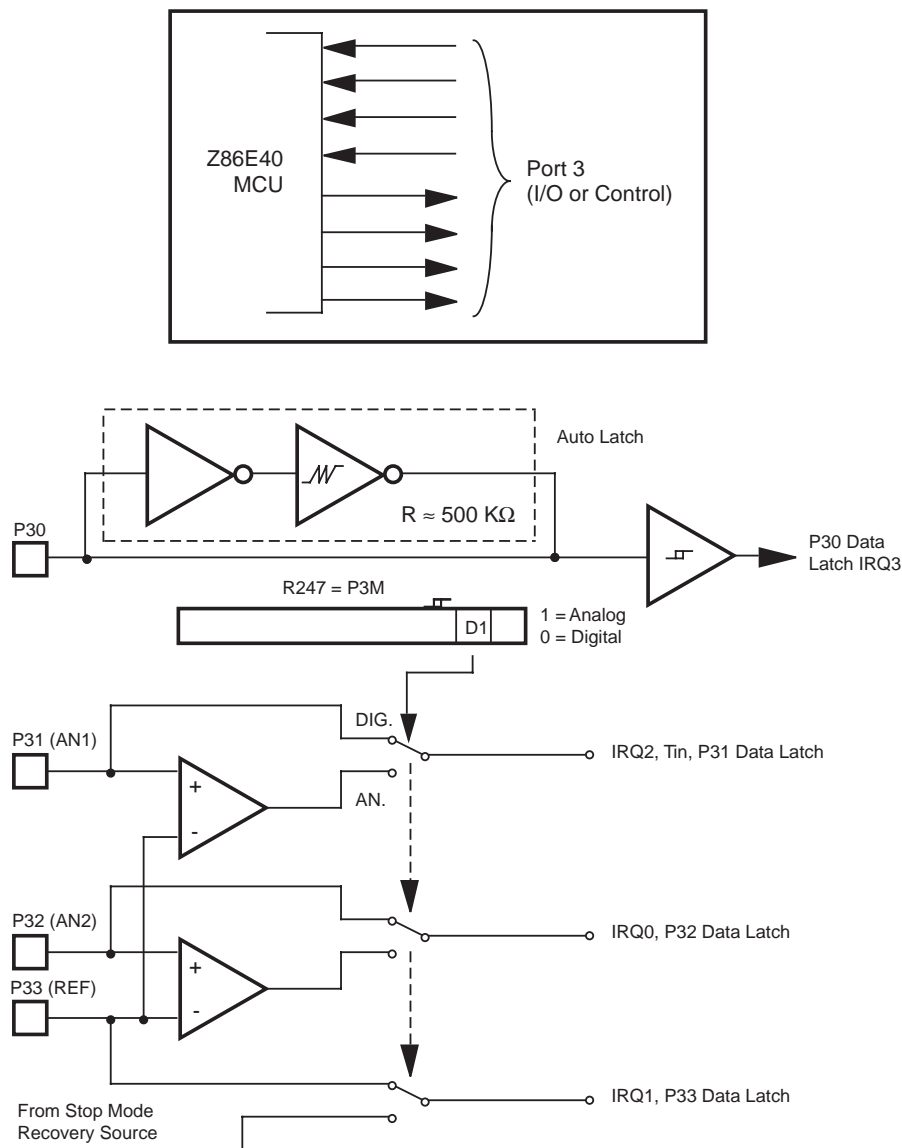

Figure 21. Port 3 Configuration
**Port 3 (P37–P30).** Port 3 is an 8-bit, CMOS-compatible port with four fixed inputs (P33–P30) and four fixed outputs (P37–P34). These eight lines can be configured by software for interrupt and handshake control functions. Port 3, Pin 0 is Schmitt-triggered. P31, P32, and P33 are standard CMOS inputs with single trip point (no Auto Latches) and P34, P35, P36, and P37 are push-pull output lines. Low EMI output buffers can be globally programmed by the software. Two on-board comparators can process analog signals on P31 and P32 with reference to the voltage on P33. The analog function is enabled by setting the D1 of Port 3 Mode Register (P3M). The comparator output can be outputted from P34 and P37, respectively, by setting PCON register Bit D0 to 1 state. For the interrupt function, P30 and P33 are falling edge triggered interrupt inputs. P31 and P32 can be programmed as falling, rising or both edges triggered interrupt inputs (Figure 21). Access to Counter/Timer 1 is made through P31 ( $T_{IN}$ ) and P36 ( $T_{OUT}$ ). Handshake lines for Port 0, Port 1, and Port 2 are also available on Port 3 (Table 9).